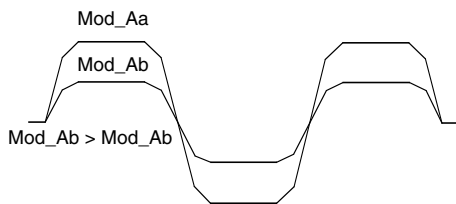

Figure 22. Two Different Modulator Attenuator Settings
- Figure 22 shows two waveforms with different attenuator setting: Mod_Aa and Mod_Ab. If mod_A is increased, the frequency deviation is lowered and vice versa.
Mod_F=0 disables the modulator filter and Mod_F=7 gives most filtering. Figure 22 shows a waveform with and without the filter.